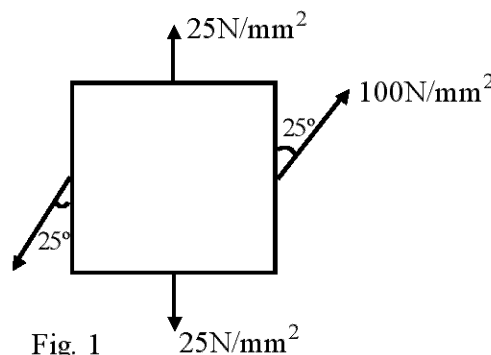

Fig. 1
2. A point in strained material is subjected to stress as shown in fig. 1 13